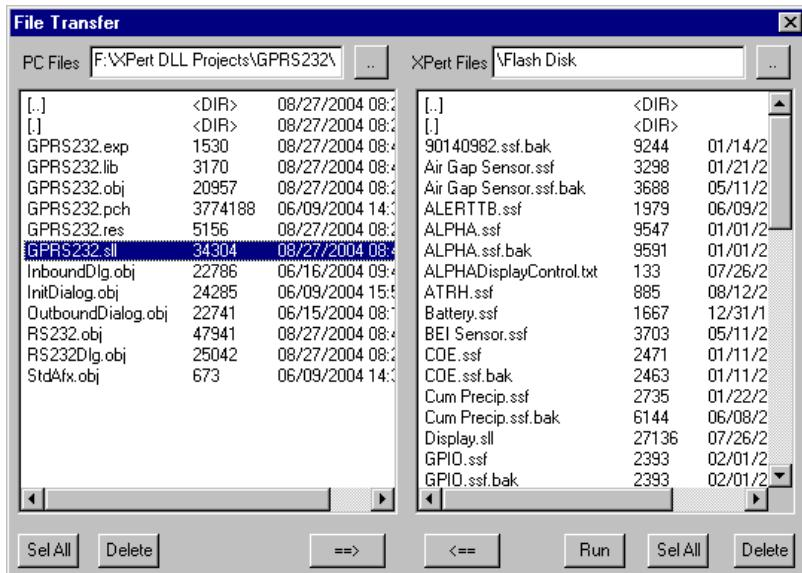

Figure 1: Xterm File Transfer Window
3. Press the File Transfer button. The File Transfer window is illustrated in Figure 1.